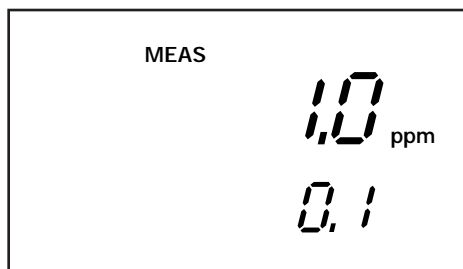

Figure 38
1. Turn meter **ON**. Press **MODE** to select ion measurement mode. —See Figure 38.